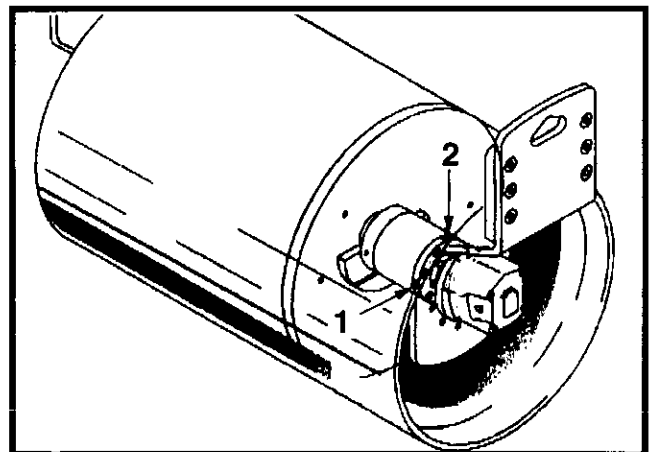

Figure 5-19 Eccentric Oil Fill/Level Plugs
1. Ensure machine is positioned on level ground with the plug (1, Figure 5-19) in 3 or 9 o'clock position, parking brake applied, and drums chocked.
3. Remove the level plug (1, Figure 5-19).
5. Allow oil to stop flowing from the level plug hole (1, Figure 5-19)